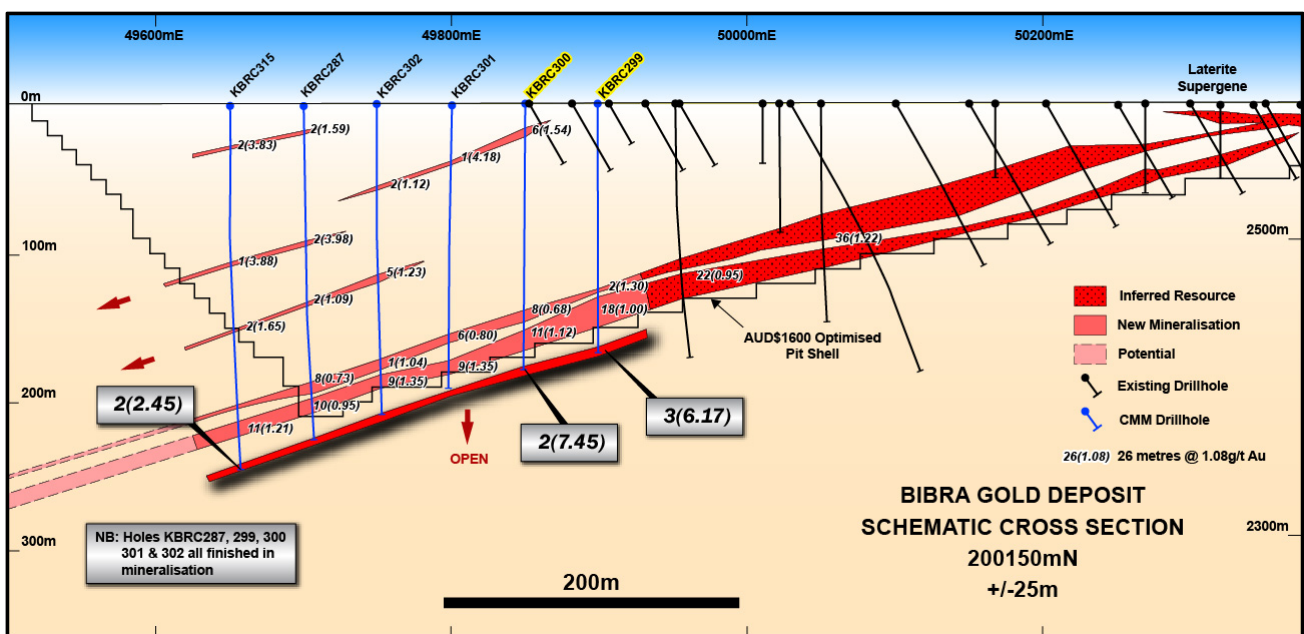

Figure 3: BIBRA GOLD DEPOSIT SCHEMATIC CROSS SECTION (200150N)
- A new higher-grade mineralised structure has been partially defined on section 200150N (Figure 3). This structure is positioned in the immediate footwall of the main lode mineralisation. The results to date that have intersected this structure over a down-dip extent of ~250m include **3 metres @ 6.21g/t Au** (EOH) and **2 metres @ 7.45g/t Au** from 177m (EOH). Further drilling is required to fully define this new structure, however the identification of a new high-grade zone within the conceptual Bibra pit shell represents a strategically important development for the project;
of the currently reported Inferred Resource and that the mineralised shear zone remains consistent at depth (Figure 3). The drilling remains wide spaced on a 50 metre by 50 metre grid;